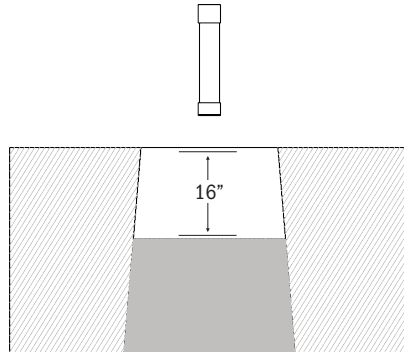

Figure 1
STEP 2: Mix concrete. Partially fill each hole until concrete is 16" from the playing surface. See Figure 1.
- STEP 1:** Remove the screw from the Crank Handle (Item # 3) and attach the Crank Handle to Post A (Item #1). Replace the screw and tighten. See Figure 1.